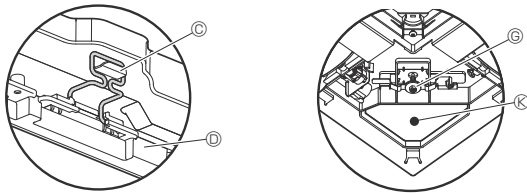

Fig. 7
- Make sure there is no gap between the main unit and the grille or between the grille and the ceiling surface. (Fig. 7)
4.4. Wire connection (Fig. 7)